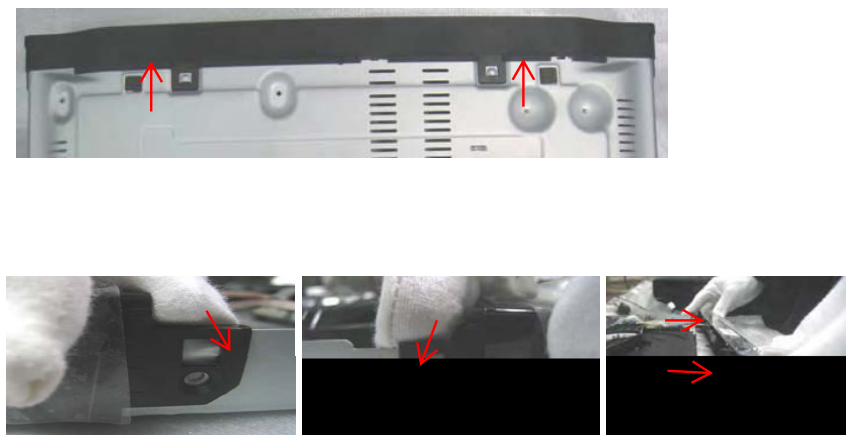

Figure 4
Step4: Dismantling Front Panel, need release 2 snaps of Front Panel and 2 snaps of bottom cabinet , then gently pull the Panel out from the set. (Figure 4)